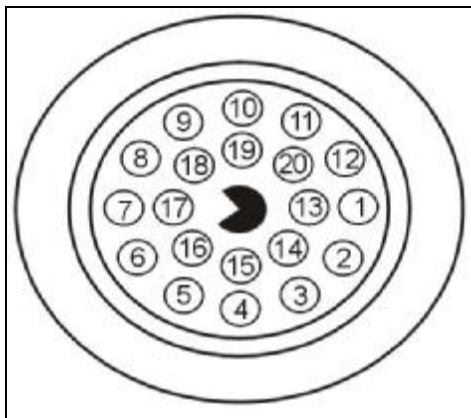

Fig.3.27
1. Pin definition for 20-pin diagnostic socket (Fig. 3.27)